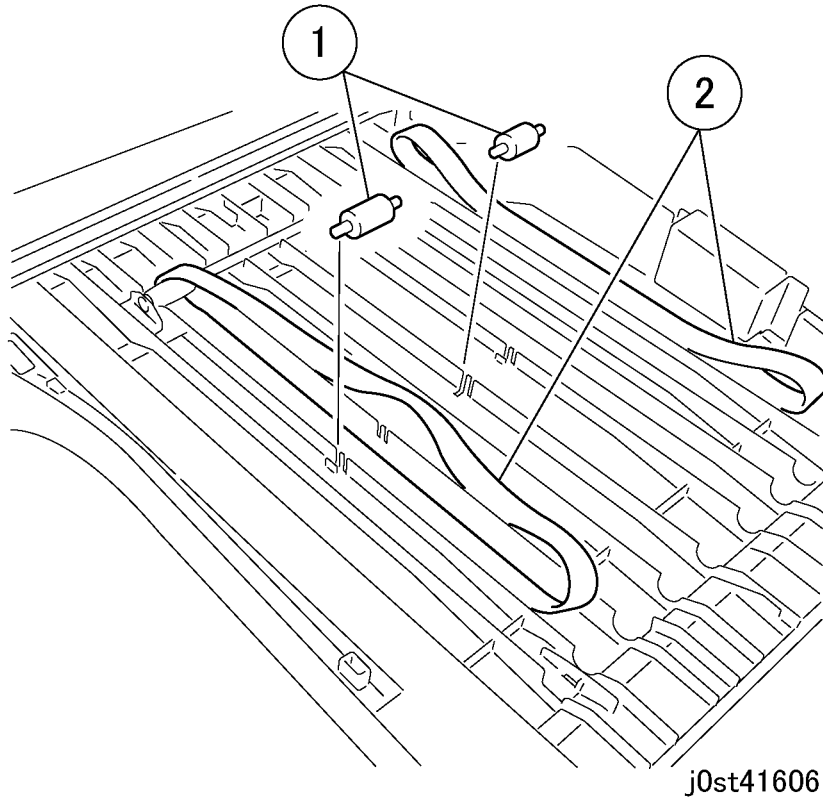

Figure 5 Removing the H-Transport Belt
6. Remove the H-Transport Belt. (Figure 5)